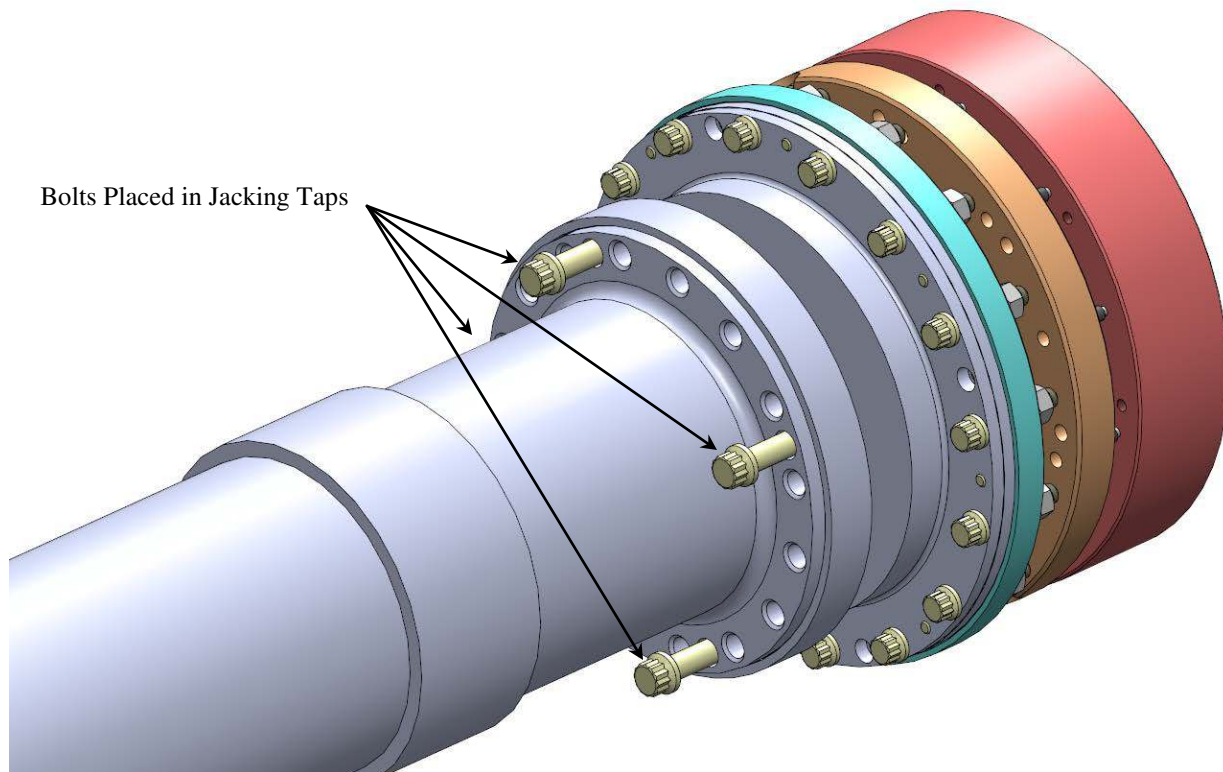
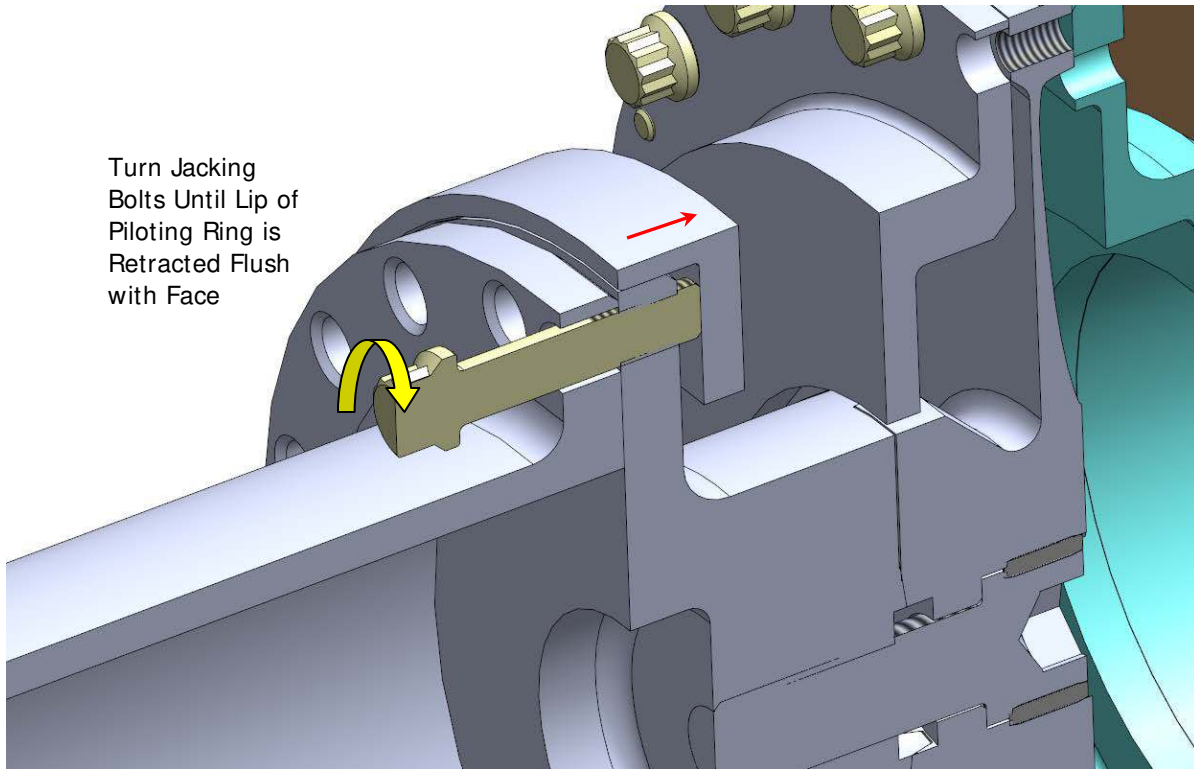

Figure 15 – Bolts in Jacking Taps for Tube Removal
Figure 16 – Retraction of Piloting Ring
5.1.2 Insert (4) of the removed 5/16-24 bolts in the jacking taps of the joint as shown in Figure 15. Turn the bolts in an even criss-cross pattern to retract the piloting ring away from the tube (see Figure 16). When the lip of the piloting ring is just past the mating faces, such that the tube can be removed, stop retracting and remove the bolts from the jacking taps.